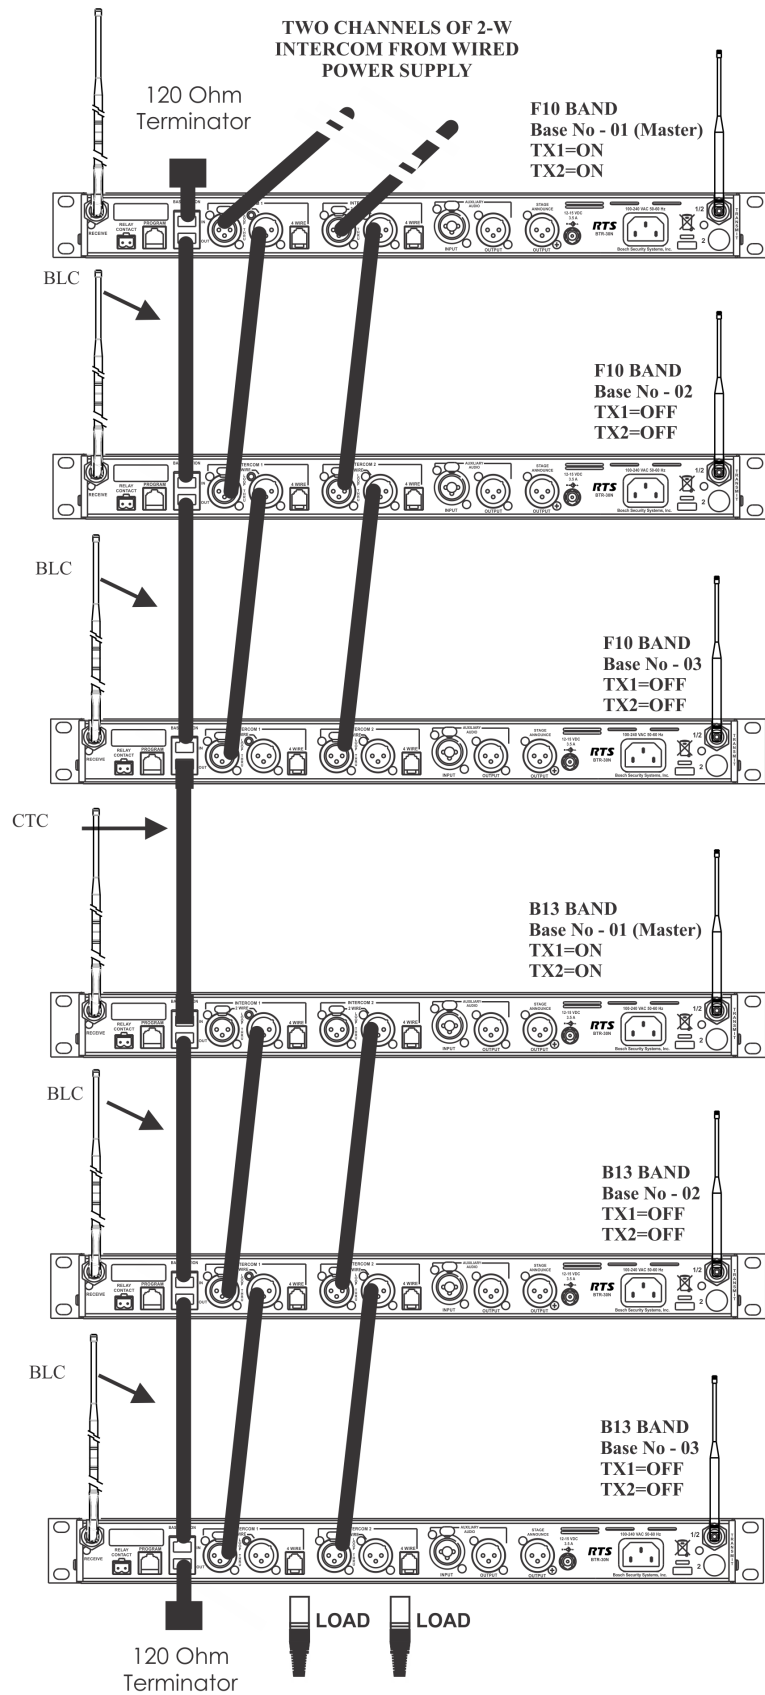

FIGURE 68. Multiple base stations connected via 2-wire audio cable and two CAN Bus networks.
- If using a party line to connect audio channels, the party line needs to be terminated by a connected PSU or a load XLR plug (P.N. TP-3 or TP-3R). See Figure 68.